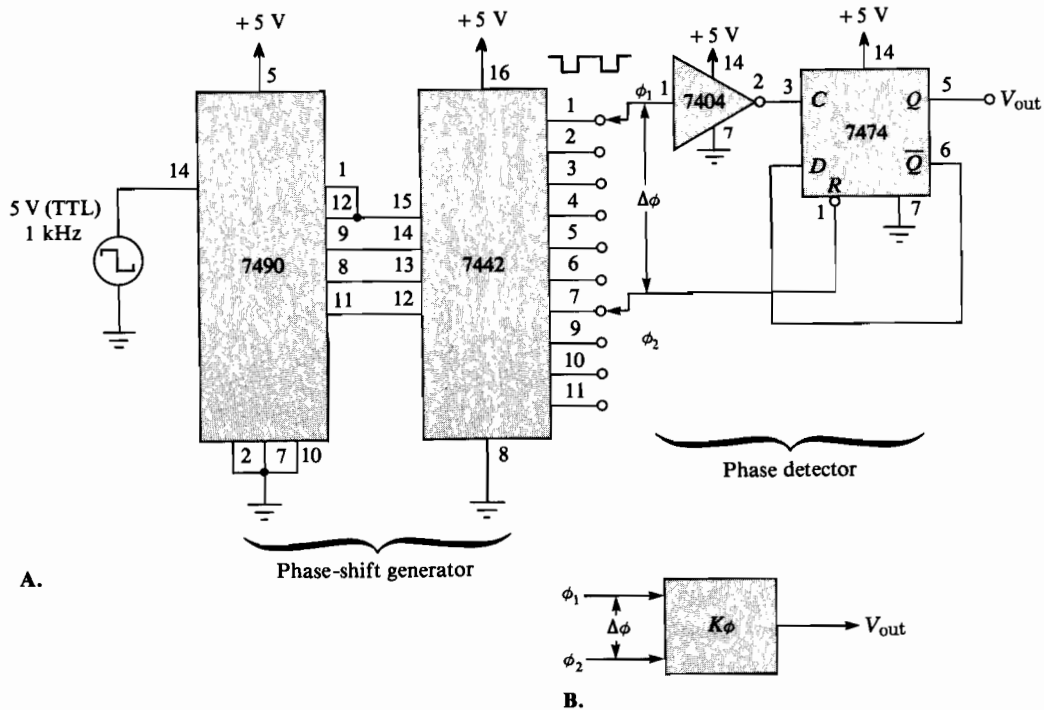

FIGURE 37-1 Schematic diagram of circuit.
1. Wire the circuit shown in the schematic diagram of Figure 37-1. The 7490 decade counter and the 7442 decoder make a simple phase-shift generator having ten fixed phase shifts from 0° to 324° in increments of 36° . The 7404 inverter, along with the 7474 flip-flop, make up the phase detector, which has two inputs (pin 1 of the 7404 and pin 1 of the 7474) and a single output (pin 5 of the 7474).
1. The dc output voltage of the D-type flip-flop phase-detector circuit of Figure 37-1
2. For the circuit in Figure 37-1, the input signals to the phase detector are